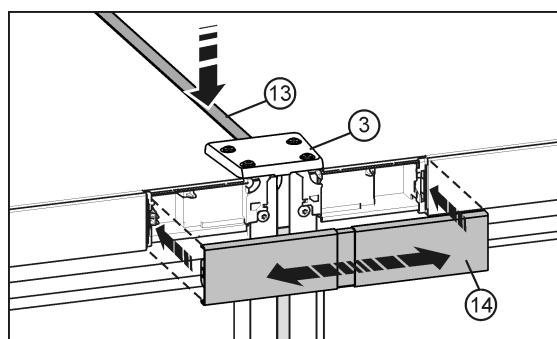

Fig. 28
- ▶ On the top, press the short trim Fig. 28 (13) into the gap. The trim must form a flush finish with the connecting plate Fig. 28 (3) on the front edge.
- ▶ Snap the cover Fig. 28 (14) onto the open space between the two control panel trims. Make sure that the outer surfaces of the cover form a flush finish with the control panel trims. The cover can be extended for this purpose.